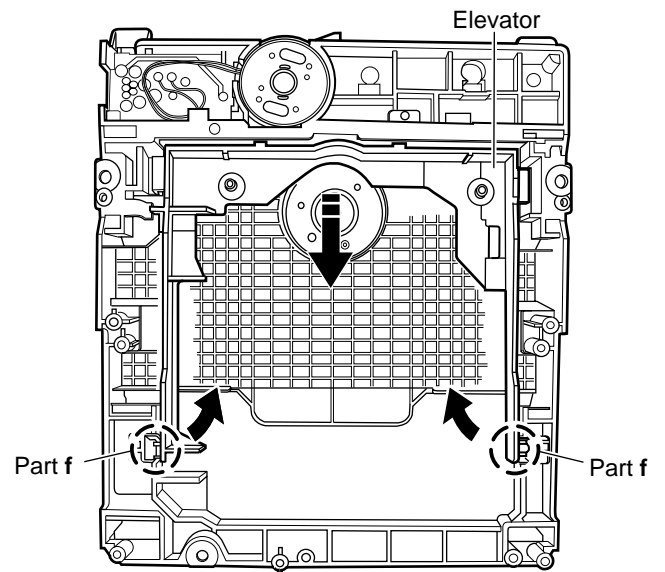
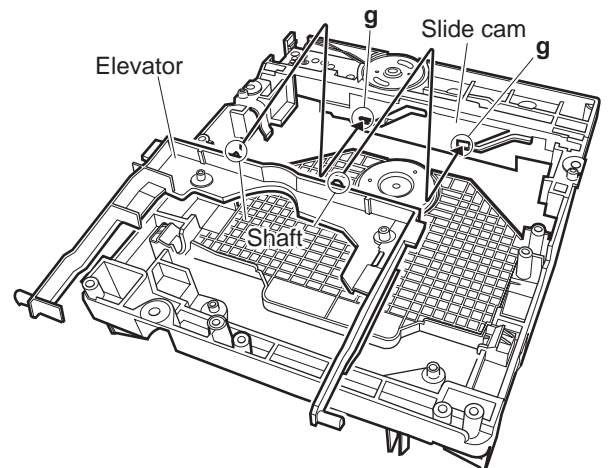

Fig.3-2h
Fig.3-2j
3.2.3 Removing the elevator (See Figure 3-2h and Figure 3-2j)